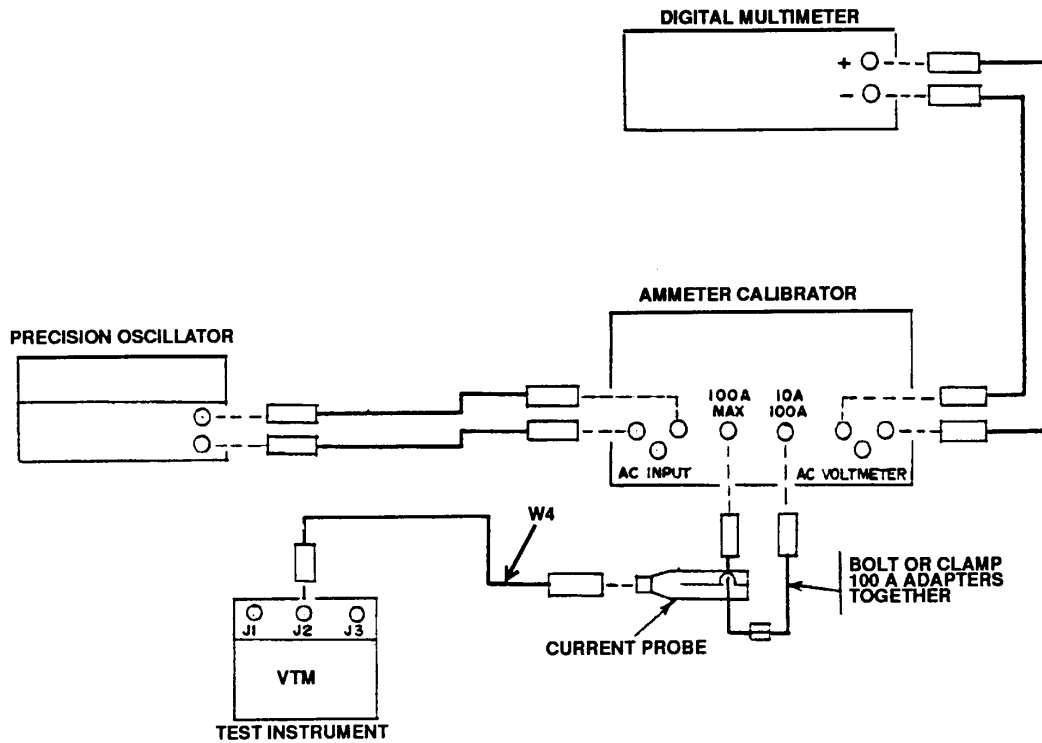

Figure 3. Ac current - equipment setup.
(1) Connect equipment as shown in figure 3.